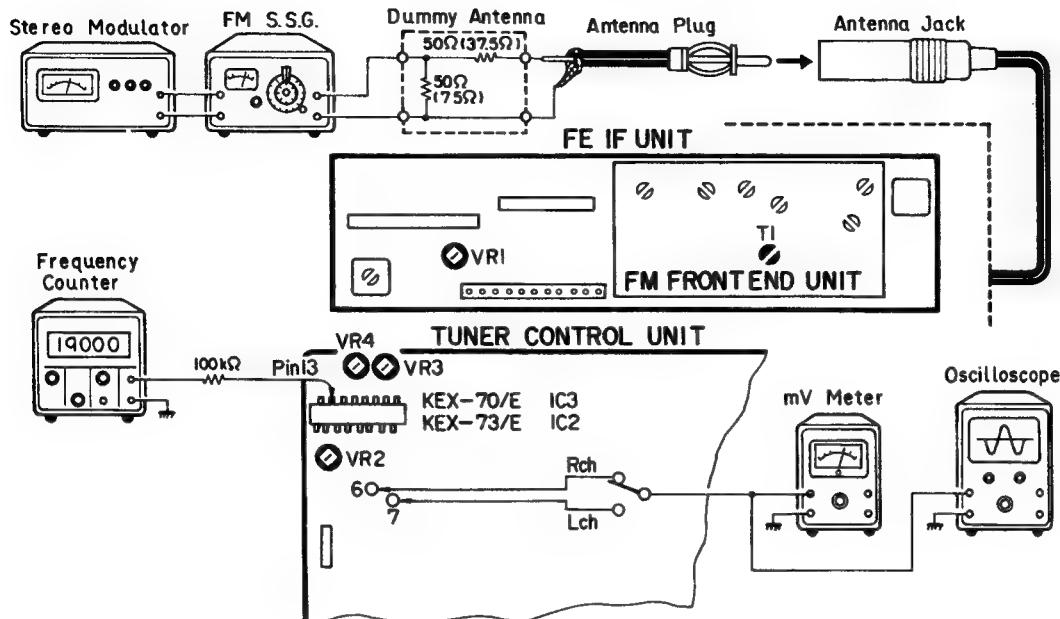

Fig. 28
- Connection Diagram (shown in Fig. 28)
- **Connection Diagram (shown in Fig. 28)**